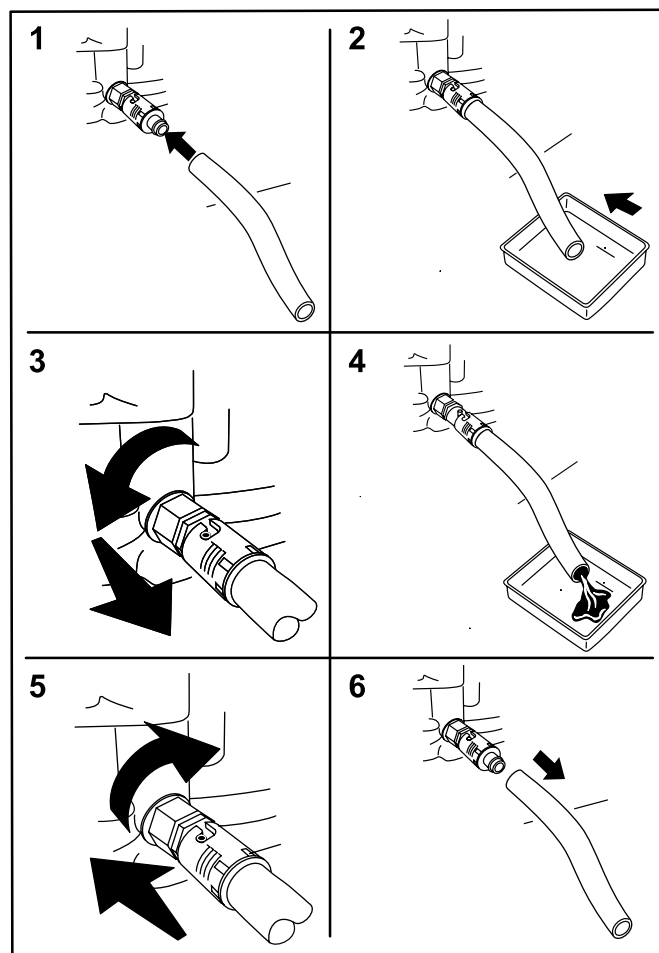

Figure 4
3. Install the drain hose onto the oil-drain valve (Figure 4).
4. Place the other end of the hose into a suitable container for oil (Figure 4).
5. Turn the oil-drain valve 1/4 turn counterclockwise to start draining the oil (Figure 4).
6. When all the oil is drained, push the oil-drain valve in and turn it 1/4 turn clockwise to close the valve (Figure 4).